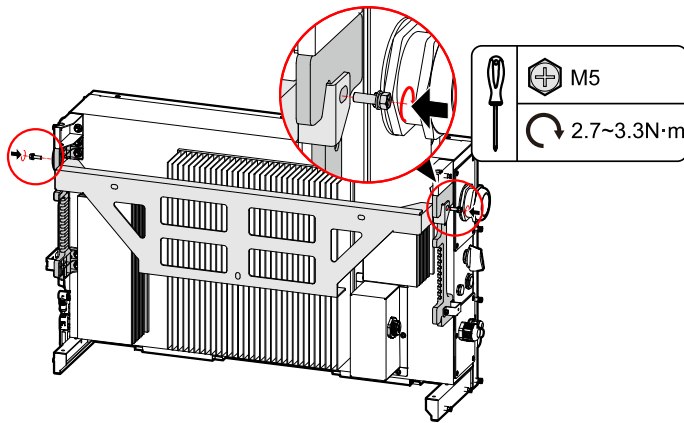

Figure3-23 Fix the hybrid inverter
3. Fix the hybrid inverter, as shown in Figure3-23.